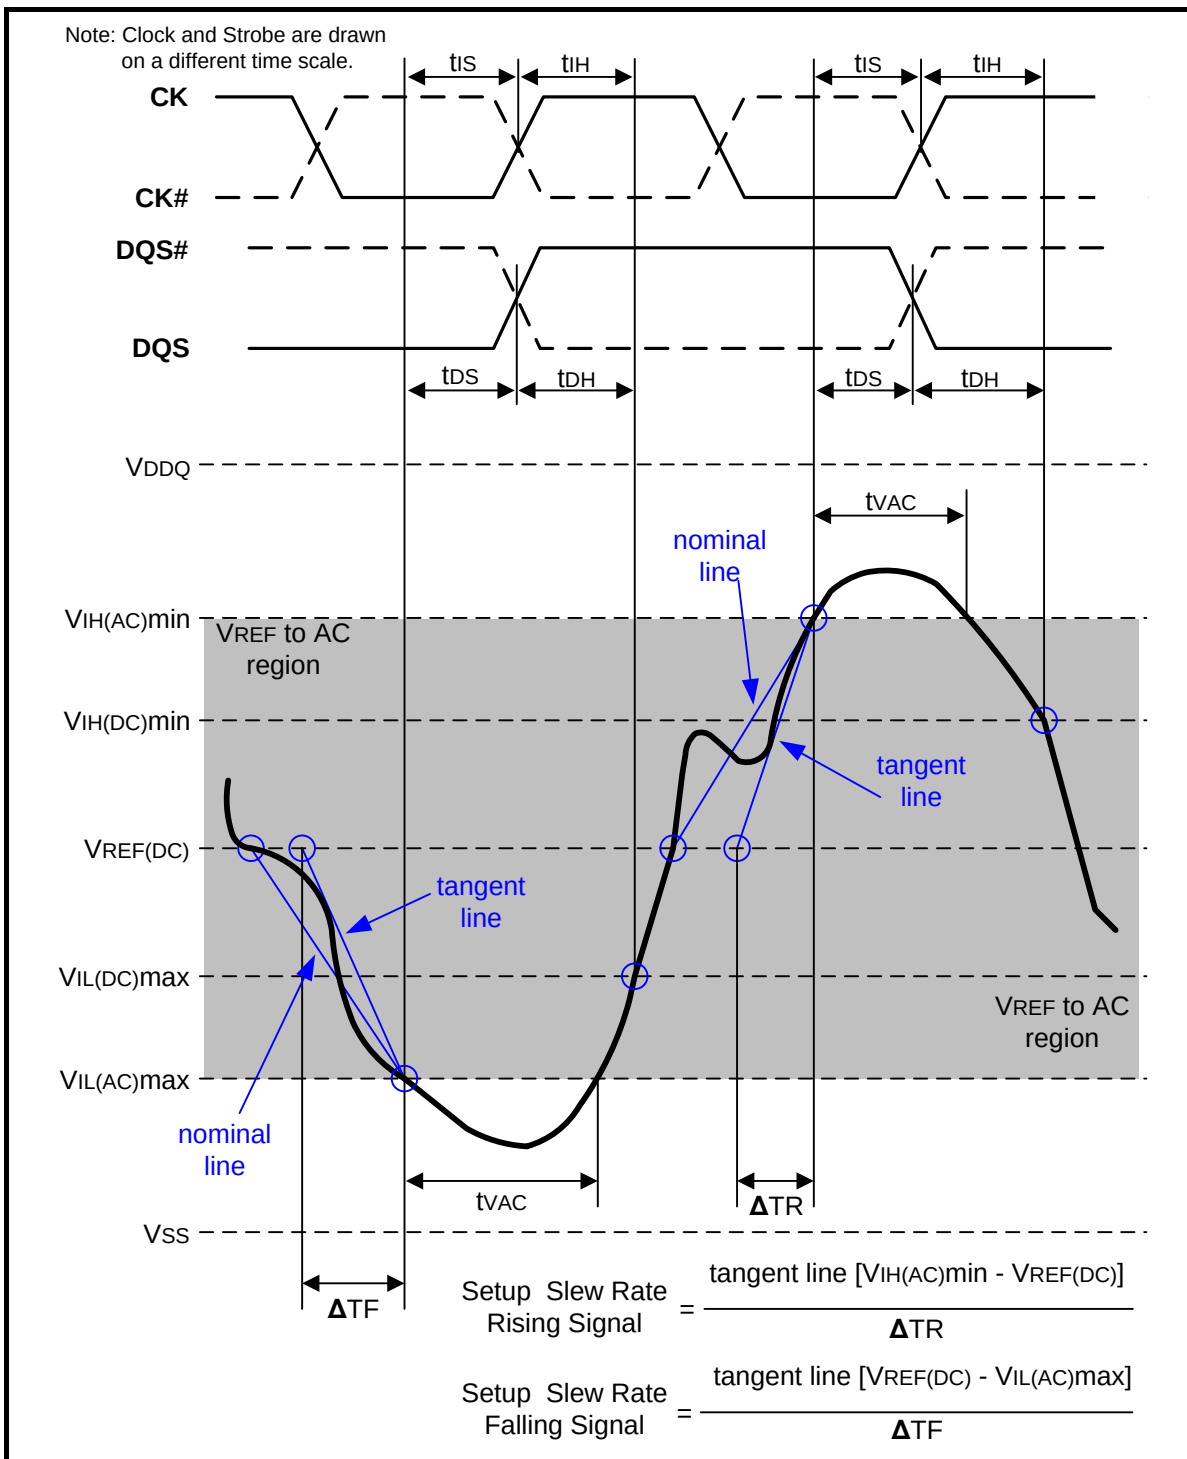

Figure 109 – Illustration of tangent line for setup time t_{DS} (for DQ with respect to strobe) and t_{IS} (for ADD/CMD with respect to clock)
Setup (t_{IS}) nominal slew rate for a rising signal is defined as the slew rate between the last crossing of $V_{REF}(\text{DC})$ and the first crossing of $V_{IH}(\text{AC})_{\text{min}}$. Setup (t_{IS}) nominal slew rate for a falling signal is defined as the slew rate between the last crossing of $V_{REF}(\text{DC})$ and the first crossing of $V_{IL}(\text{AC})_{\text{max}}$. If the actual signal is always earlier than the nominal slew rate line between shaded 'VREF(DC) to AC region', use nominal slew rate for derating value (see Figure 107). If the actual signal is later than the nominal slew rate line anywhere between shaded 'VREF(DC) to AC region', the slew rate of a tangent line to the actual signal from the AC level to $V_{REF}(\text{DC})$ level is used for derating value (see Figure 109).
Setup (t_{DS}) nominal slew rate for a rising signal is defined as the slew rate between the last crossing of $V_{REF}(\text{DC})$ and the first crossing of $V_{IH}(\text{AC})_{\text{min}}$. Setup (t_{DS}) nominal slew rate for a falling signal is defined as the slew rate between the last crossing of $V_{REF}(\text{DC})$ and the first crossing of $V_{IL}(\text{AC})_{\text{max}}$ (see Figure 107). If the actual signal is always earlier than the nominal slew rate line between shaded 'VREF(DC) to AC region', use nominal slew rate for derating value. If the actual signal is later than the nominal slew rate line anywhere between shaded 'VREF(DC) to AC region', the slew rate of a tangent line to the actual signal from the AC level to $V_{REF}(\text{DC})$ level is used for derating value (see Figure 109).